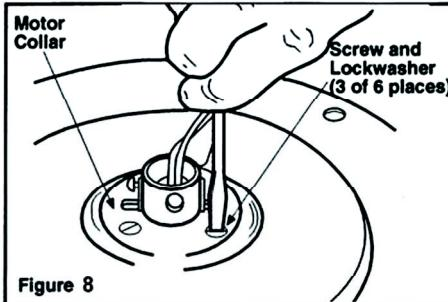

Figure 8
3. Remove three of the six screws and lockwashers (every other one) securing the motor collar to the top of the fan motor housing (Figure 8).